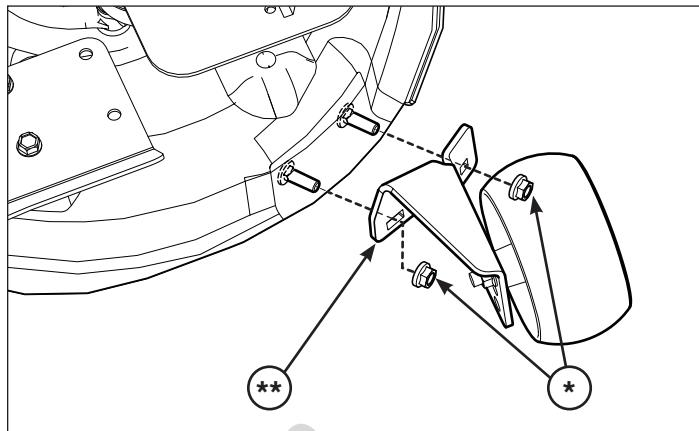

Figure 15
1. To the left of the discharge opening, remove nuts (*, Figure 15) and rear gage wheel assembly (**). Retain nuts.